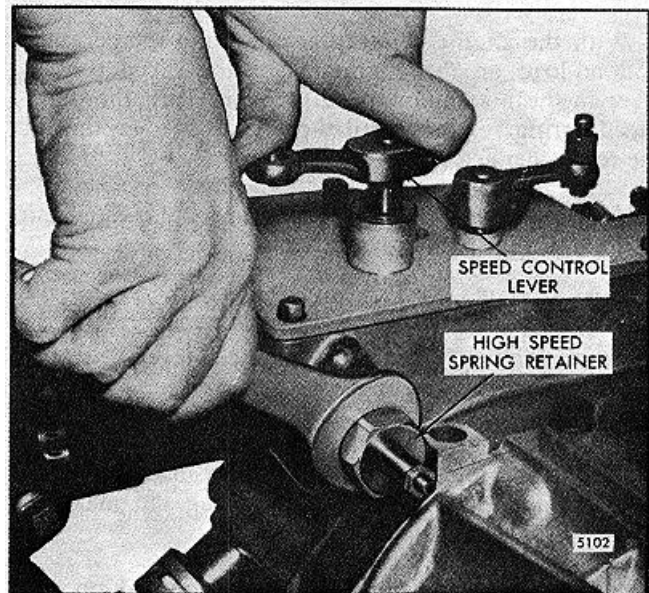

FIG. 10 - Adjusting Maximum No-Load Speed
1. Loosen the spring retainer lock nut (Fig. 10) and back off the high-speed spring retainer approximately five turns.